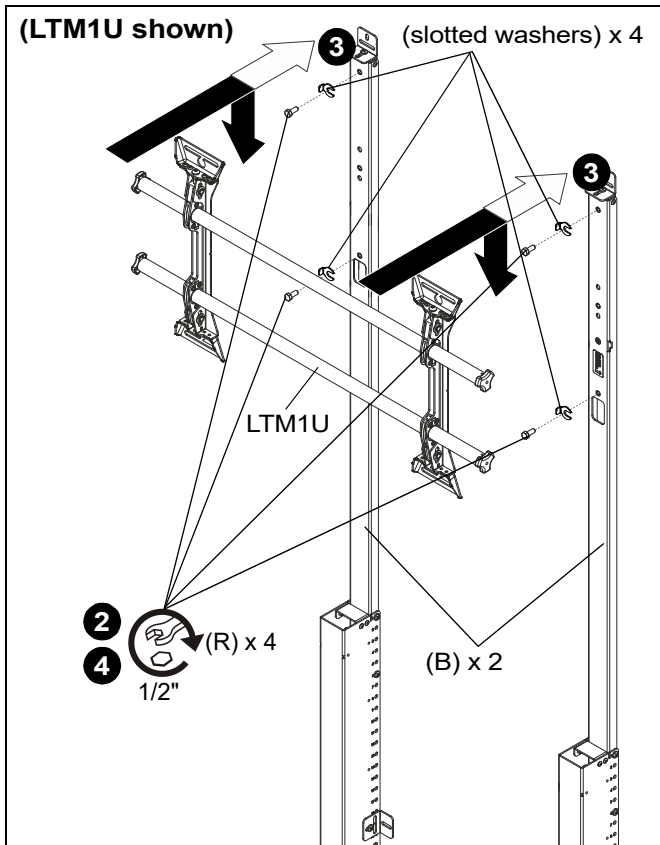

Figure 17
2. **(For LTM1U/LSM1U/MTM1U/MSM1U)** Loosely install four 1/4-20 x 1/2" hex head cap screws (R) and four slotted washers (included with LTM1U) into top holes of top uprights (B). (See Figure 17)
3. **(For LTM1U/LSM1U/MTM1U/MSM1U)** Use teardrop holes to place LTM1U main assembly onto screws (R). (See Figure 17)
4. **(For LTM1U/LSM1U/MTM1U/MSM1U)** Tighten four screws (R) to secure LTM1U to top uprights (B). (See Figure 17)